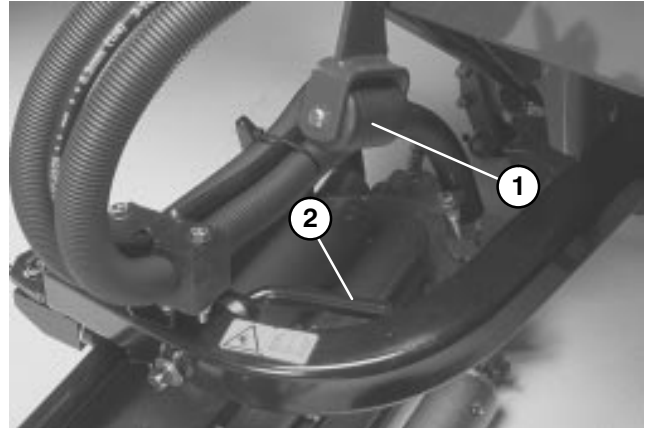

Figure 14
12. Check adjustment of lock-up rollers (Fig. 14). When properly adjusted, they will contact the lock-up levers on rear lift arms and support the cutting units when fully raised. The cutting units should have approximately 3/8" – 5/8" vertical travel measured at the rear roller.